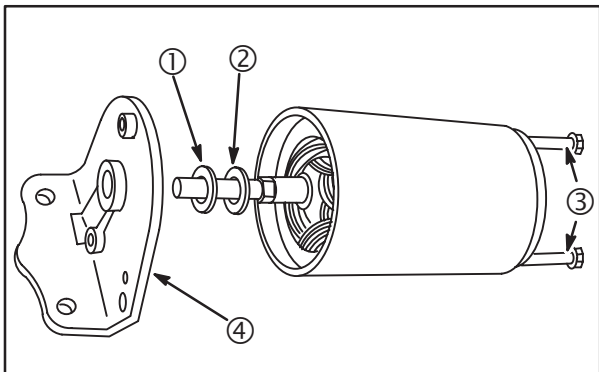

Fig. 28
1. Assemble spacer washer (1) and spring washer (2, if equipped) to armature shaft, **Fig. 28**.
2. Assemble drive end cap (4) to armature shaft.
4. Install thru bolts (3). Torque to **50 in. lbs. (6 Nm)**.